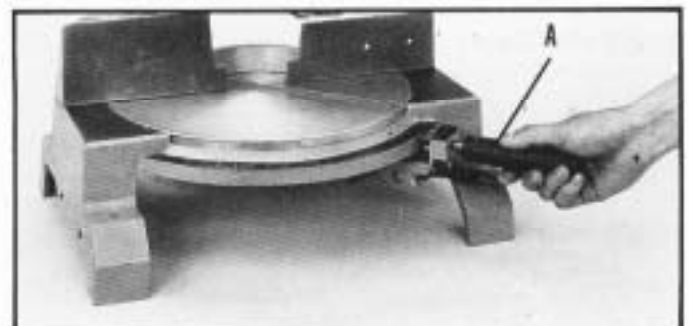

Fig. 4
1. Thread table lock handle (A) into the control arm, as shown in Fig. 4.